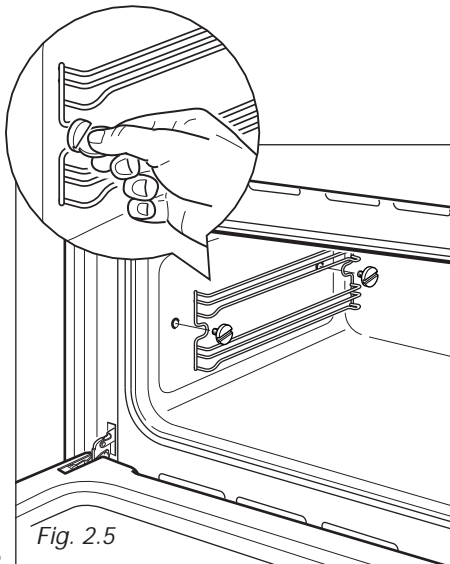

Fig. 2.5
- Assemble the wire racks to the oven walls using the 2 screws (Fig. 2.5).